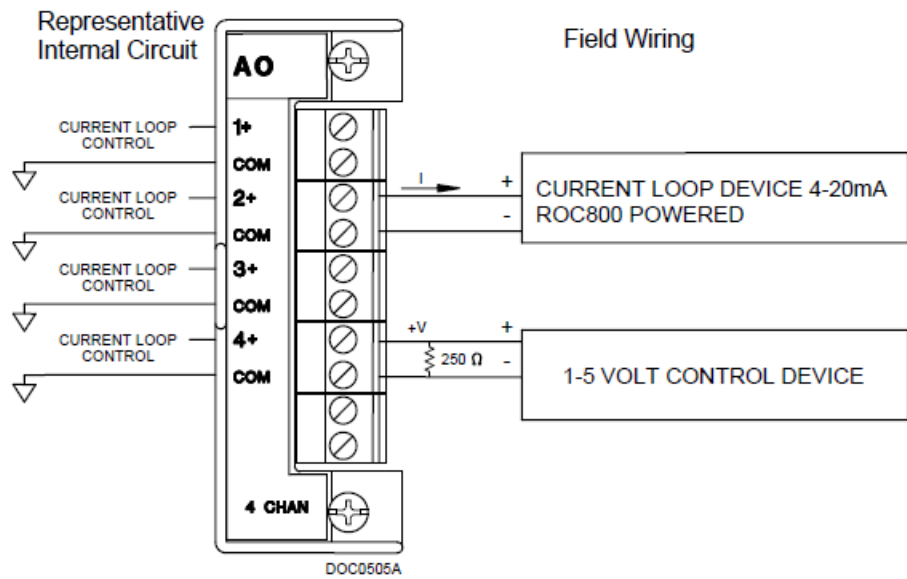

Figure E-10. AO Module Field Wiring
**Hardware/Wiring** You can connect an AI channel with the AO channel to be tested, or connect to an external analog meter. See *Figure E-10*.